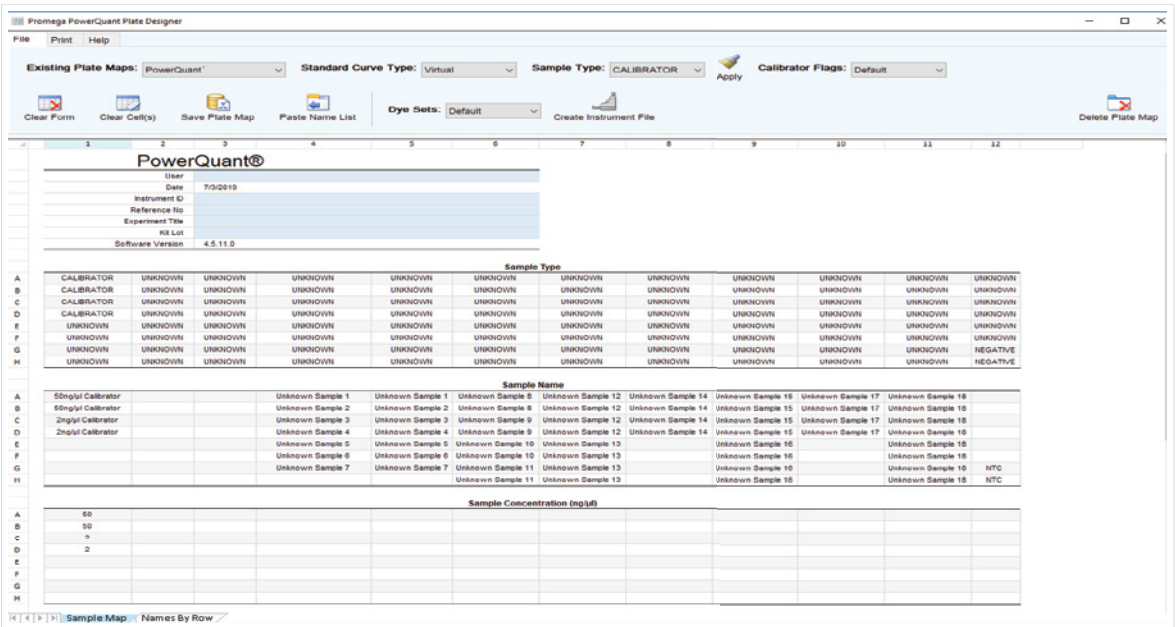

Figure 91. Plate Designer menu options for a virtual standard curve.
1. In the 'Configuration Tools' tab (Figure 57), select the **Design Plate Map** icon to open the 'Promega PowerQuant Plate Designer' window (Figure 91).